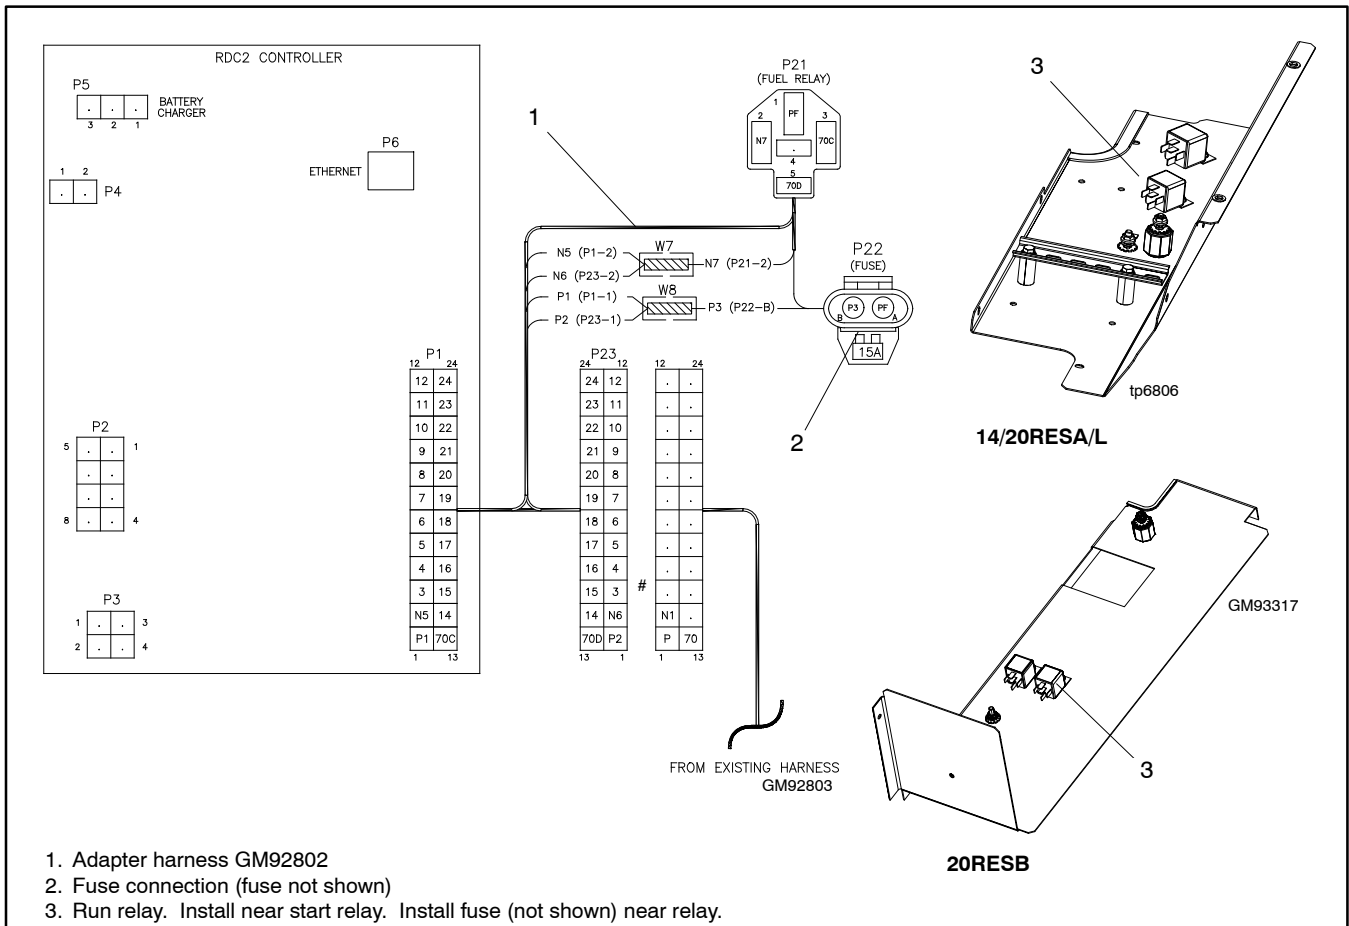

Figure 21 Relay and Adapter Harness (for replacing original controller with revised controller only)
- a. Use the hardware provided in the relay kit to install the new run relay in the trough under the controller, near the existing relay. See Figure 21.